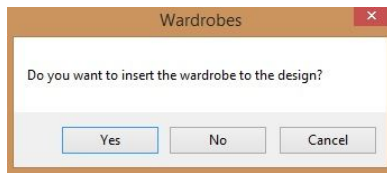

Fig. 137 – the module wants to know whether the designed wardrobe is to be inserted in the design created in CAD Decor PRO program
- click the cross  **'Close'** in the upper right corner of the screen. You will be asked whether you want the wardrobe to be inserted in the design in CAD Decor, CAD Kitchens or CAD Decor PRO or not (Fig. 137). This option is especially useful when you want to drop changes made in an already existing wardrobe which has been edited after insertion in CAD programs.